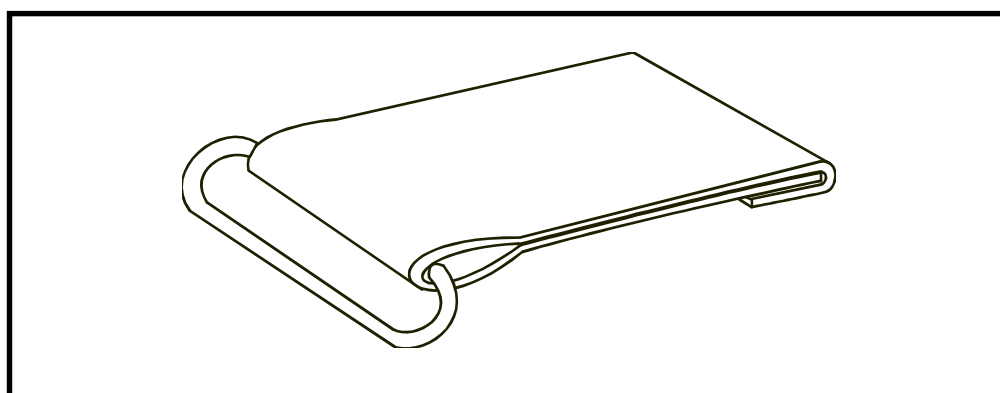

Figure 13-4. Type 3 fold
(3)..Type 3 Fold. Type 3 fold (Figure 13-4) is made with webbing 1 to 2 inches longer than twice the length of the planned chape. To make a type 3 webbing fold, place the hardware on the webbing, and then--